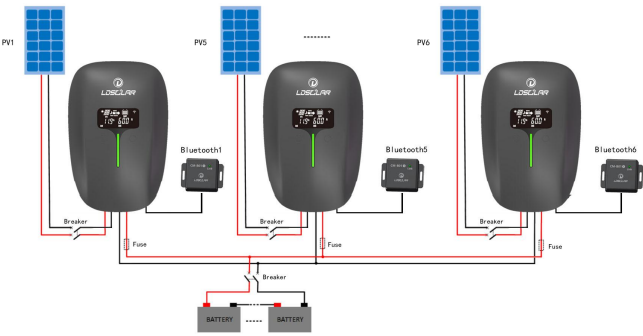

Figure 2-2 Schematic of wiring diagram
Connect the system in the order of ①battery ② PV array in accordance with Figure 2-2, "Schematic Wiring Diagram". and disconnect the system in the reverse order ②①.
① Single controller
② Connection in parallel